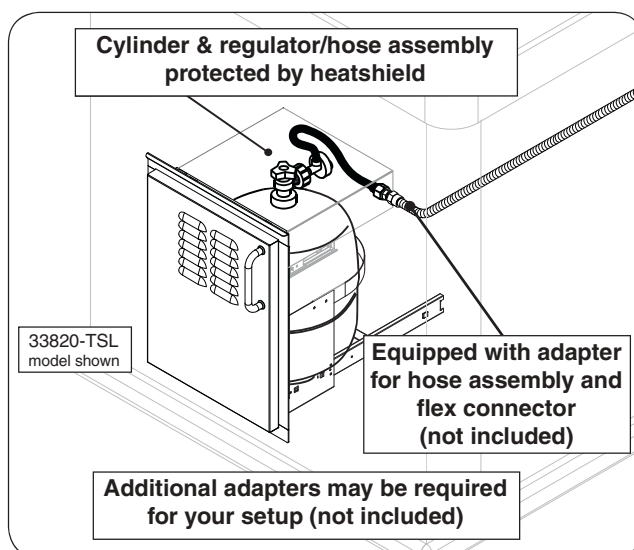

Fig. 11-3 Optional RHP door w/ tank tray
- **RHP offers propane tank door with tank tray models to meet the cylinder install requirements. See Fig. 11-3. Contact your dealer for ordering information.**